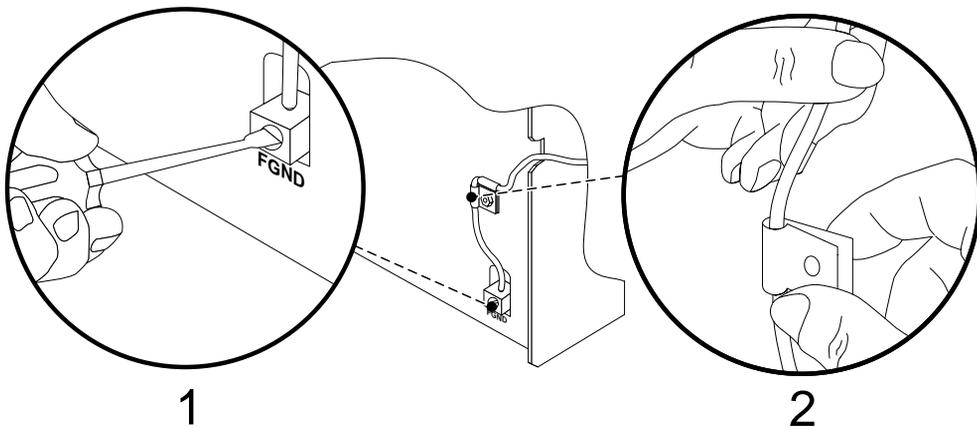

Figure 8. Attaching the Ground Wire and Strain-Relief Retaining Clamp to the Terminal Block
2. Using a slotted screwdriver, tighten the captive screw in the terminal block securely as shown in Figure 8
3. Place two strain-relief retaining clamps around the wire (also shown in Figure 8), push the two clamps positioned at right angles onto the threaded stud, and securely attach the nut to the stud with a nut driver.